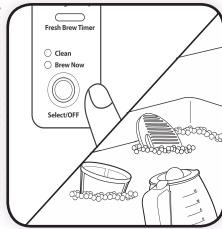

Figure 3
- 3 When brewing is complete, turn the coffeemaker off, discard the water in the Carafe and rinse the Carafe, Carafe lid, Removable Splash Guard and Removable Filter Basket. (Figure 3)